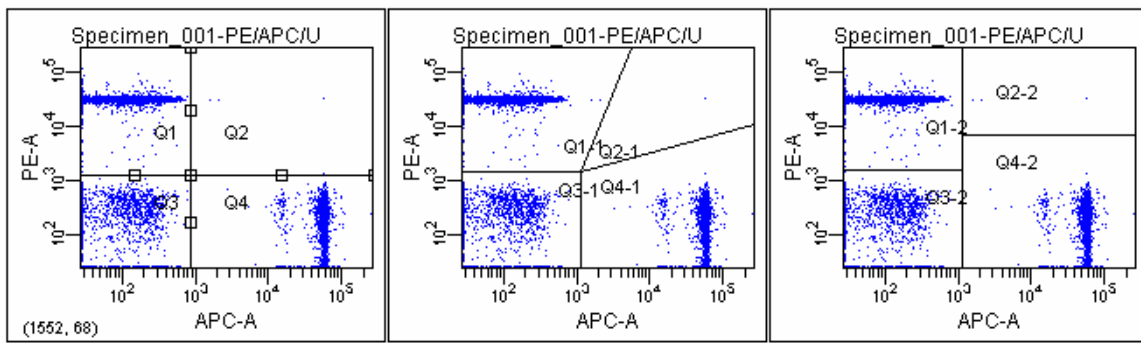

Figure 12
- See **Figure 12** for an example of normal, pivot point, and offset quadrants.